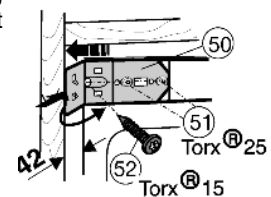

Fig. 23
- ▶ Screw the mounting bracket tight onto the unit wall with Spax screw $\varnothing 4 \times 19$ *Fig. 23 (52)*.
- ▶ Push the mounting bracket *Fig. 23 (50)* against the wall of the unit and tighten the two M5 screws, Torx 25 *Fig. 23 (51)*.